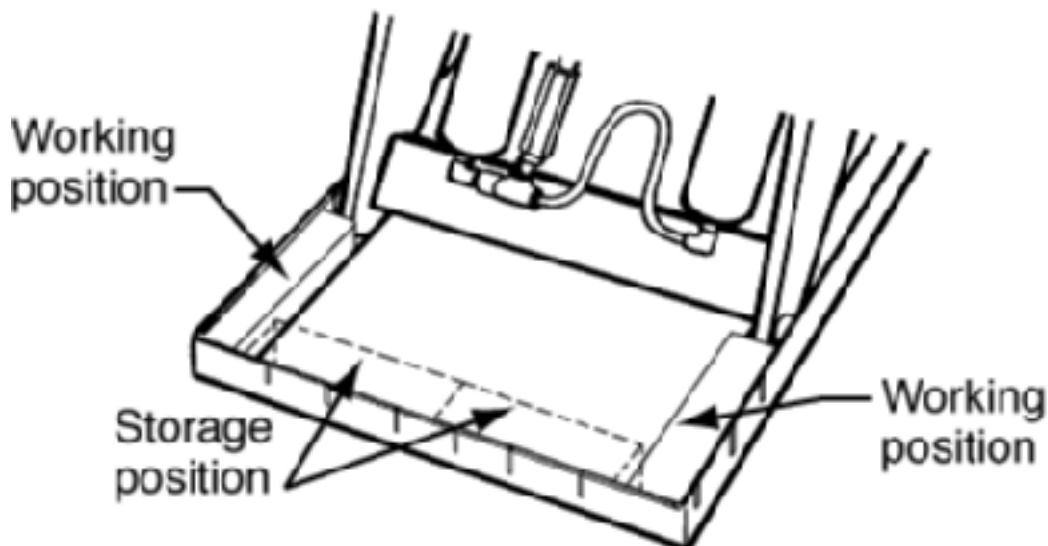

FIGURE 1 – MAINTENANCE BLOCK
3. Remove the maintenance device(s) from its/their storage location and place it/them into the engaged position as shown in Figure 1. (Note: further information may be useful here to provide additional instructions as to the location and method of storage and engaged positions).